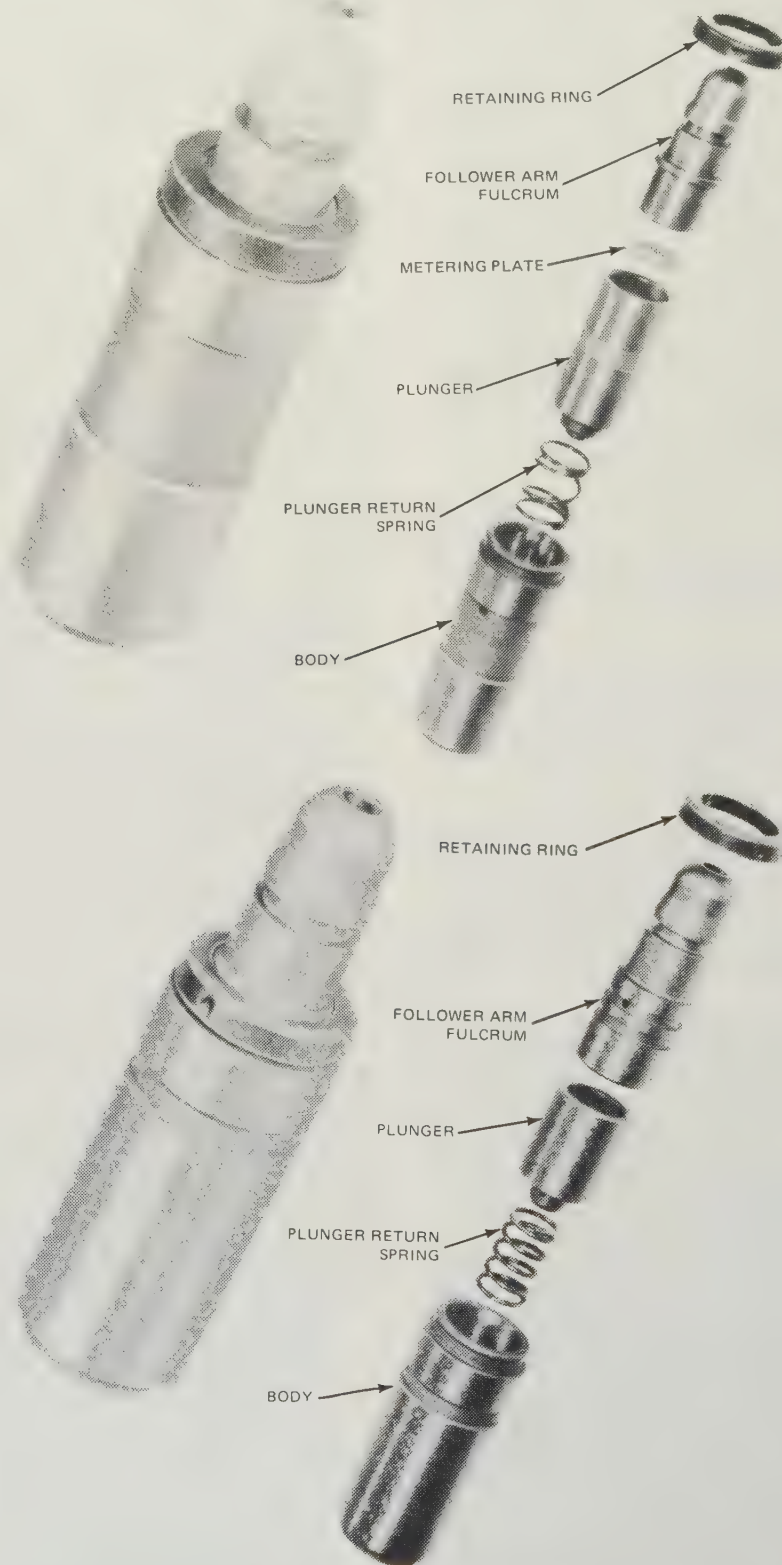

Fig. 1.18. The two types of hydraulic valve lash adjusters (Sec. 35)
- 2 Carefully pry off the retaining ring, take out the follower arm fulcrum and dismantle the complete adjuster. The component parts of the two different types in common use are shown in Fig. 1.18.